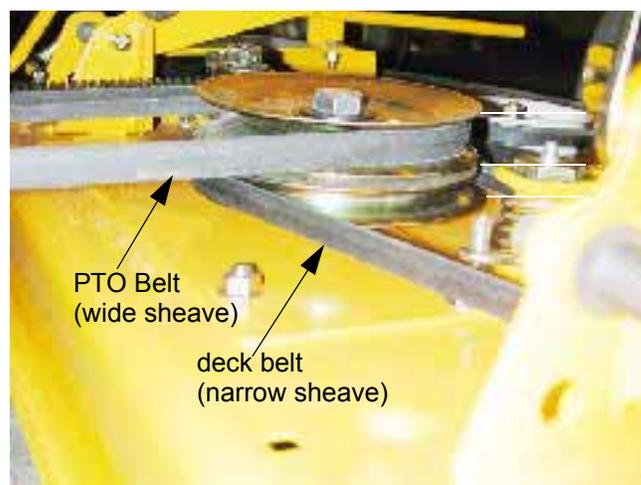

Figure 5.11
- 5.11. The double pulley that transfers drive from the PTO belt to the deck belt has two different size sheaves. The PTO belt rides in the top sheave, which is the wider of the two, to accommodate the angularity that results from different cutting heights. See Figure 5.11.